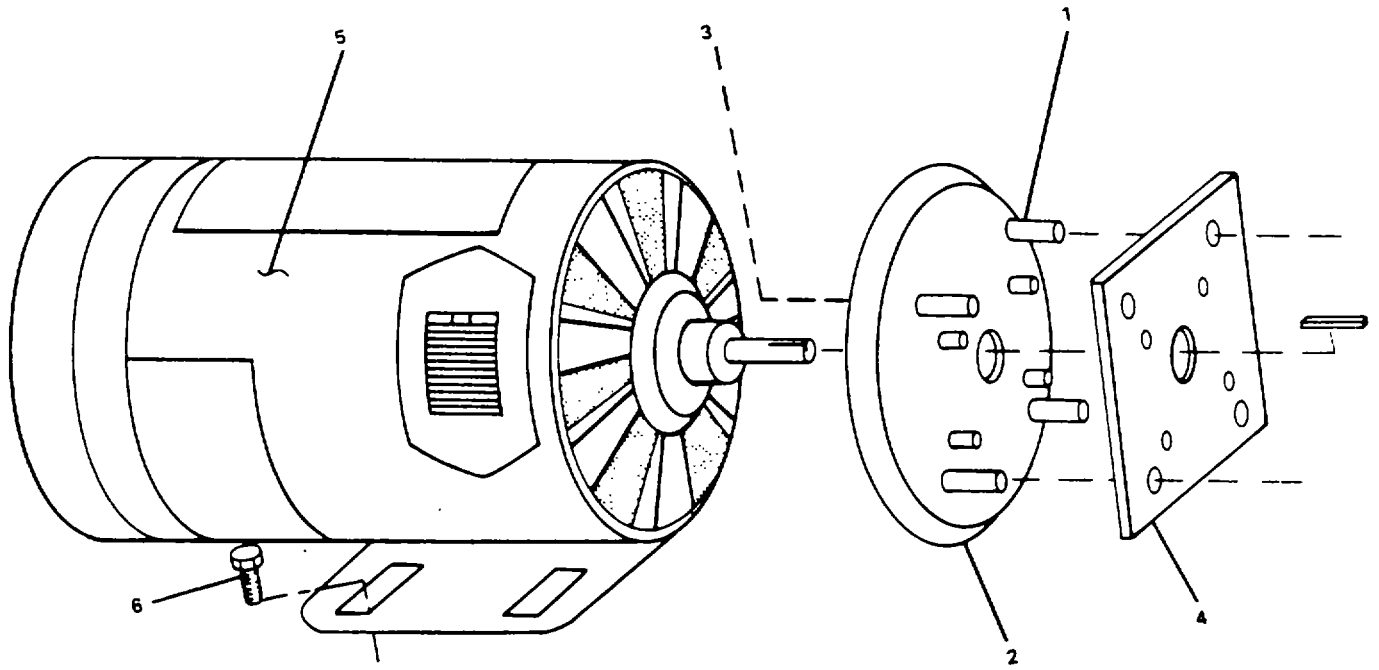

Figure 2-141. High Pressure Pump Motor.
- a. Remove screw (1) (Figure 2-141) holding electrical junction box cover (2). Remove cover.
- c. Remove four nuts from motor tie-rods (3, Figure 2-141) at pump end of motor (7).
- d. Remove four mounting bolts (6).
- e. Remove motor end plate (2) with pump adapter plate (4) attached.